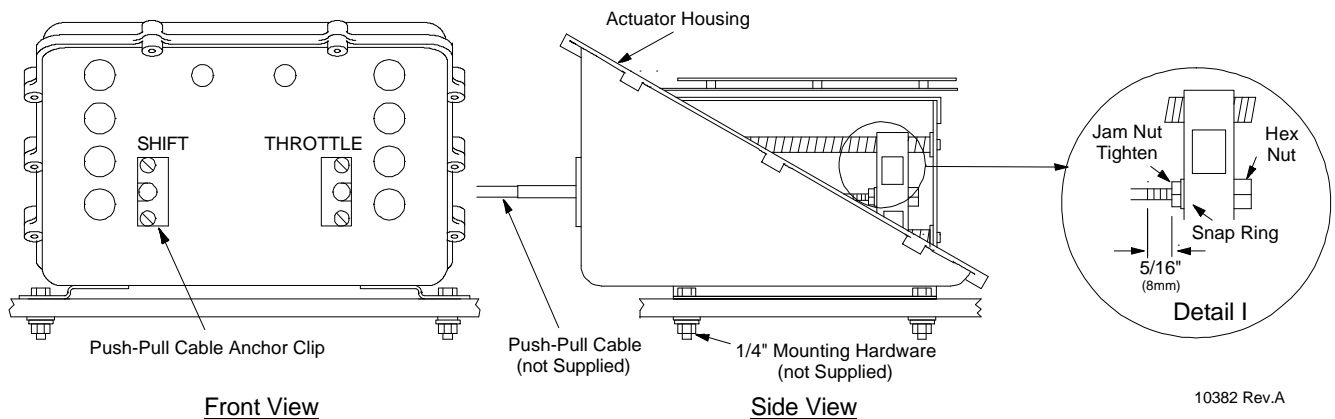

Figure 13 – Push-Pull Cable Connection
- D) Connect the push-pull cables to the MicroCommander Actuator (See Figure 13). Remove the #10-32 jam nut and the two (2) rubber seals from the push-pull cable end that is to connect to the Actuator. Reinstall the #10-32 jam nut. Remove one (1) cable anchor clip screw from the Actuator housing and swing the cable clips clear. Connect the shift cable and throttle cable to the proper hex nut. See label on the Actuator. (See Figure 13, Detail I) Use a 7/16" socket to turn the hex nut onto the #10-32 cable rod end until there is approximately 5/16" (7,9mm) of thread showing beyond the jam nut. Tighten the #10-32 jam nut to the hex nut. Install the cable anchor clips to secure the Type 33C cable to the Actuator housing.
- D) Check that the push-pull cable jam nut in the Actuator is jammed. (See Figure 13, Detail I) If this is not done, the Hex Nut can back off the push-pull cable threaded end, and effectively change the cable length. Shift and throttle cables must have jam nuts tightened.